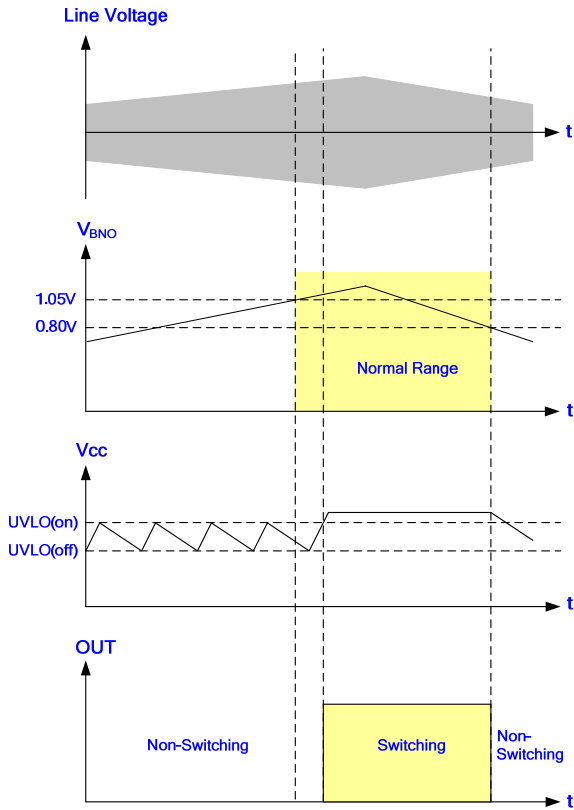

Fig. 19
The LD7932R programmable to set the brownout protection point through BNO pin. The voltage across the BNO pin is proportional to the bulk capacitor voltage, referred as the line voltage. A brownout comparator is implemented to detect the abnormal line condition. As soon as the condition is detected, it will shut down the controller to prevent the damage. Figure 19 shows the operation. When VBNO falls below 0.80V, the gate output will be kept off even Vcc has already achieved UVLO(ON). It therefore makes Vcc hiccup between UVLO(ON) and UVLO(OFF). Unless the line voltage is large enough to pull VBNO larger than 1.05V, the gate output will not start switching even when the next UVLO(ON) is tripped. A hysteresis is implemented to prevent the false trigger during turn-on and turn-off. Figure 20 shows the circuit.